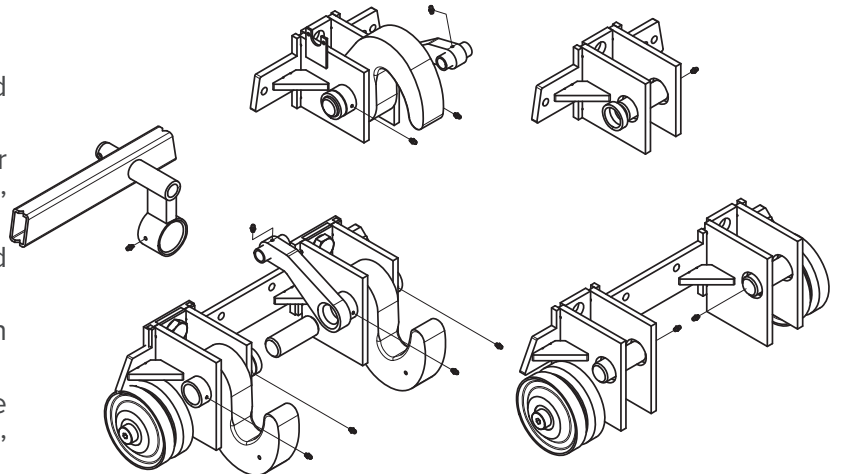

Figure 28
5. Lubricate all Bulkhead Assembly grease fittings every 6 months, or 750 cycles, whichever comes first (Figure 28).